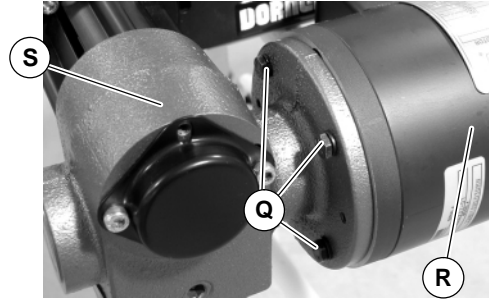
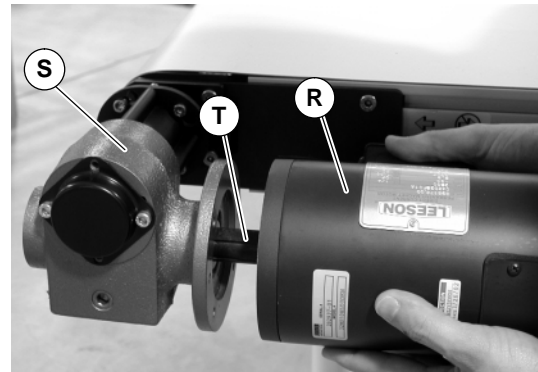

Figure 18
Figure 19
4. Remove four (4) screws (Q of Figure 18). Detach motor (R) from gear reducer (S). Retain motor output shaft key (T of Figure 19).
5. With key (T of Figure 19) in keyway, slide motor (R) and gear reducer together.